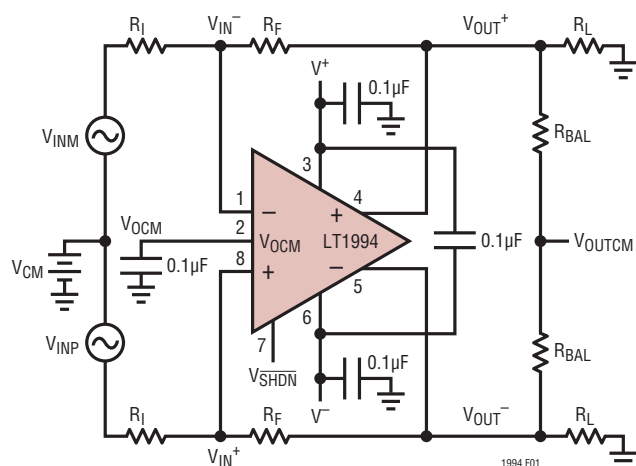

Figure 1. Test Circuit
**Note 7:** Input Common Mode Range is tested using the Test Circuit of Figure 1 ( $R_F = R_1$ ) by applying a single ended  $2V_{\text{P-P}}$  1kHz signal to  $V_{\text{INP}}$  ( $V_{\text{INM}} = 0$ ), and measuring the output distortion (THD) at the common mode Voltage Range limits listed in the Electrical Characteristics table, and confirming the output THD is better than  $-40\text{dB}$ . The voltage range for the output common mode range (Pin 2) is tested using the Test Circuit of Figure 1 ( $R_F = R_1$ ) by applying a 0.5V peak, 1kHz signal to the  $V_{\text{OCM}}$  Pin 2 (with  $V_{\text{INP}} = V_{\text{INM}} = 0$ ) and measuring the output distortion (THD) at  $V_{\text{OUTCM}}$  with  $V_{\text{OCM}}$  biased 0.5V from the  $V_{\text{OCM}}$  pin range limits listed in the Electrical Characteristics Table, and confirming the THD is better than  $-40\text{dB}$ .
As levels of integration have increased and, correspondingly, system supply voltages decreased, there has been a need for ADCs to process signals differentially in order to maintain good signal-to-noise ratios. These ADCs are typically supplied from a single-supply voltage that can be as low as 2.5V and will have an optimal common mode input range near mid-supply. The LT1994 makes interfacing to these ADCs trivial, by providing both single-ended to differential conversion as well as common mode level shifting. Figure 1 shows a general single-supply application with perfectly matched feedback networks from  $V_{OUT}^+$  and  $V_{OUT}^-$ . The gain to  $V_{OUTDIFF}$  from  $V_{INM}$  and  $V_{INP}$  is:
The input impedance looking into the  $V_{INP}$  or  $V_{INM}$  input of Figure 1 depends on whether or not the sources  $V_{INP}$  and  $V_{INM}$  are fully differential. For balanced input sources ( $V_{INP} = -V_{INM}$ ), the input impedance seen at either input is simply: